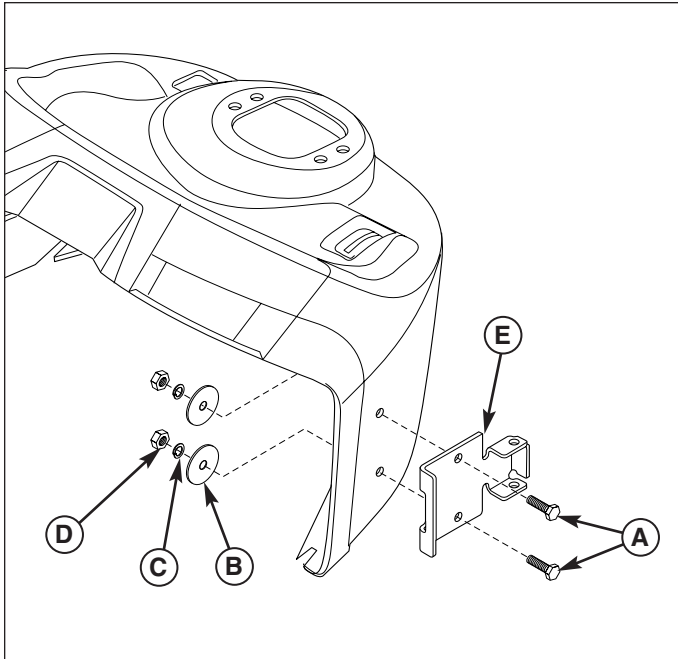

Figure 21. Mount Control Bracket - Current Models
2. Mount the mounting bracket (E, Figure 21) to the dashboard. Secure with two 1/4-20 x 7/8 capscrews (A), lockwashers (C), and large flat washers (B).